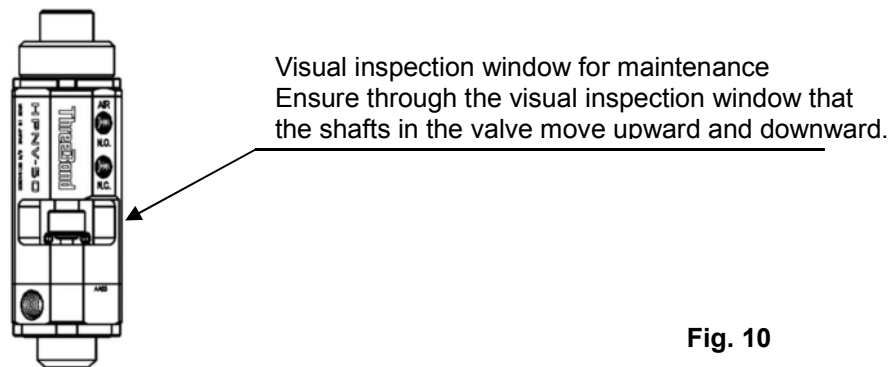

Fig. 10
- The opening and closing operation of the valve can be checked through the visual inspection window for maintenance (see **Fig. 10**).